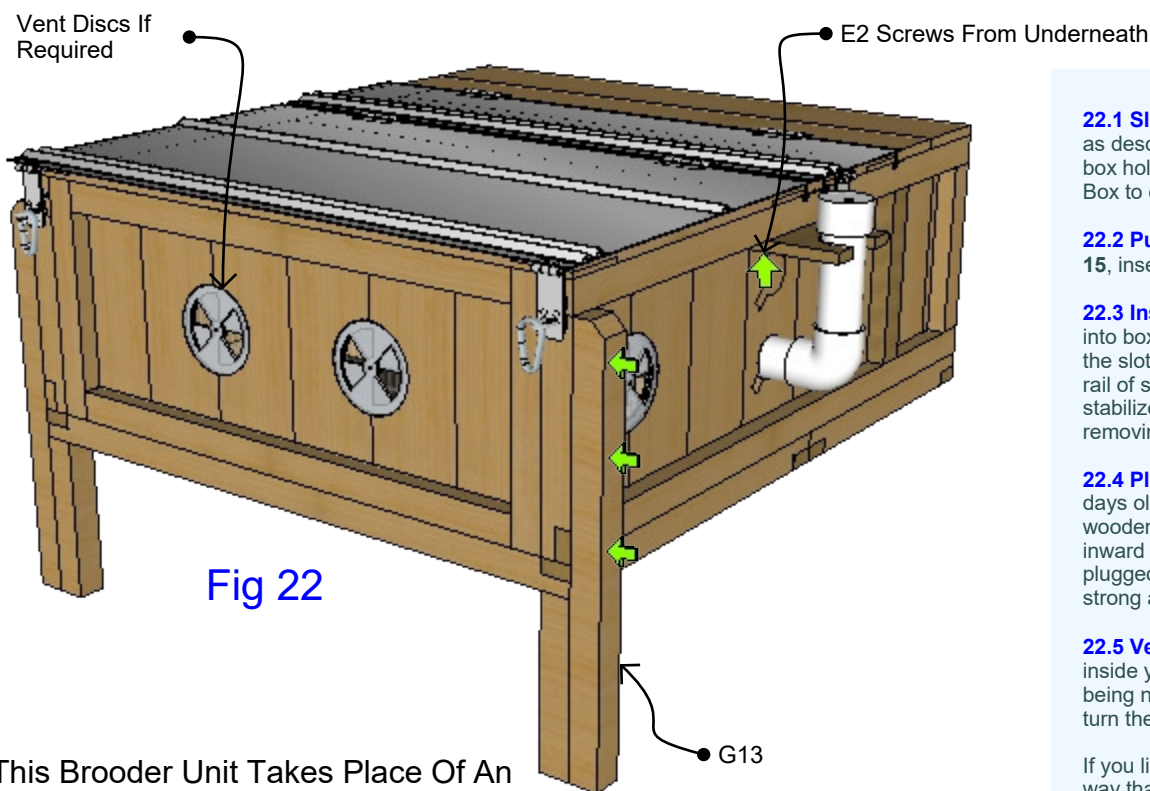

Fig 22
22.3 Insert Waterer Into Brooder Box / Attach Stabilizer : Slip waterer into box as illustrated in **Fig 22** rotating it to where the nipples align with the slots then position fill stem vertically. Position stabilizer bracket under rail of side and using two **E2** Green Screws up from bottom, attach stabilizer so that it will secure waterer from moving side to side. When removing waterer, rotate clockwise to allow nipples to exit the side.